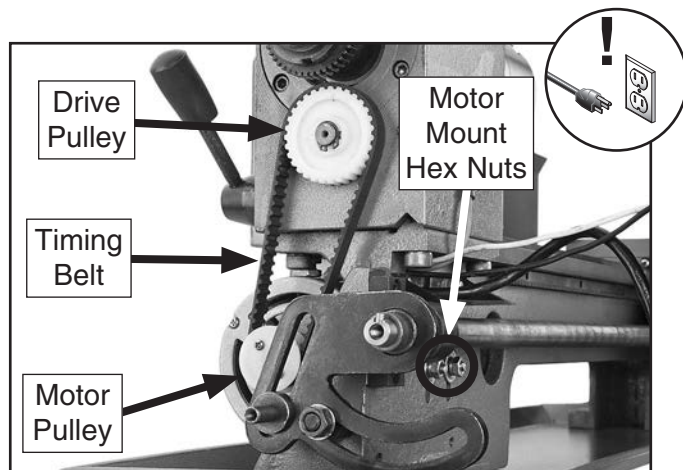

Figure 89. Timing belt and motor mount hex nuts (components removed for clarity).
The timing belt transfers power from the motor to the drive pulley (see **Figure 89**).
3. Verify belt is centered on drive pulley (see **Figure 89**) by hand-rotating chuck. The belt should be seated so it does not contact head-stock or hang out at end of pulley.
- If belt is not centered, loosen motor mount hex nuts (see **Figure 89**), re-adjust motor position and re-tension belt.